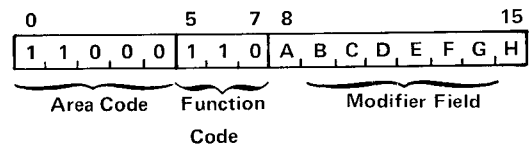

Fig. 2-8. IOCC for Software Lights
Software Lights. Software lights are selected when binary number six (110) is represented by bits 5, 6, and 7 of the IOCC word. See Fig. 2-8. This function code is used to turn on lights corresponding to bits 8 through 15 only. In the modifier field (bits 8 through 15), a ONE in any bit position A, B, C, D, E, F, G, or H will light the corresponding lettered button on the GDC's control panel. A zero will turn off a lighted button.